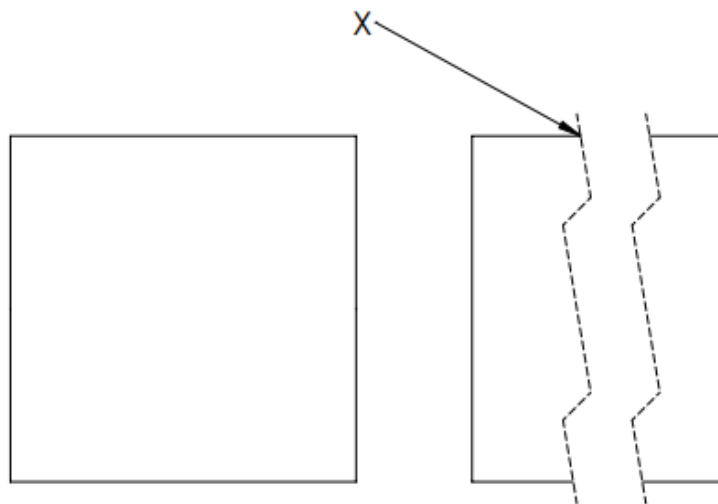

Figure 4.2
- c) What is the name of the view indicated by X in the above Figure 4.2?